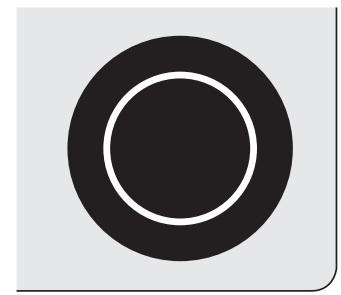

Figure 3
The cooktop is equipped with 1 or 2 dual radiant surface elements located at the **left front** and the **right front** position (Figure 1). Symbols around the knob are used to indicate which coil of the dual radiant element will heat. The ● symbol indicates that only the inner coil will heat (Figure 2). The ◎ symbol indicates that both inner and outer coils will heat (Figure 3). You may switch from either coil setting at any time during cooking.
2. Push in and turn the control knob to the inner coil symbol for smaller cookware (Figure 2) or to inner and outer coil symbol for larger cookware (Figure 3). Turn the knob to adjust the setting if needed. Start most cooking operations on a higher setting and then turn to a lower setting to finish cooking. Each surface element provides a constant amount of heat at each setting. A glowing red surface heating area extending beyond the bottom edge of the cookware indicates the cookware is **too small** for the surface heating area.